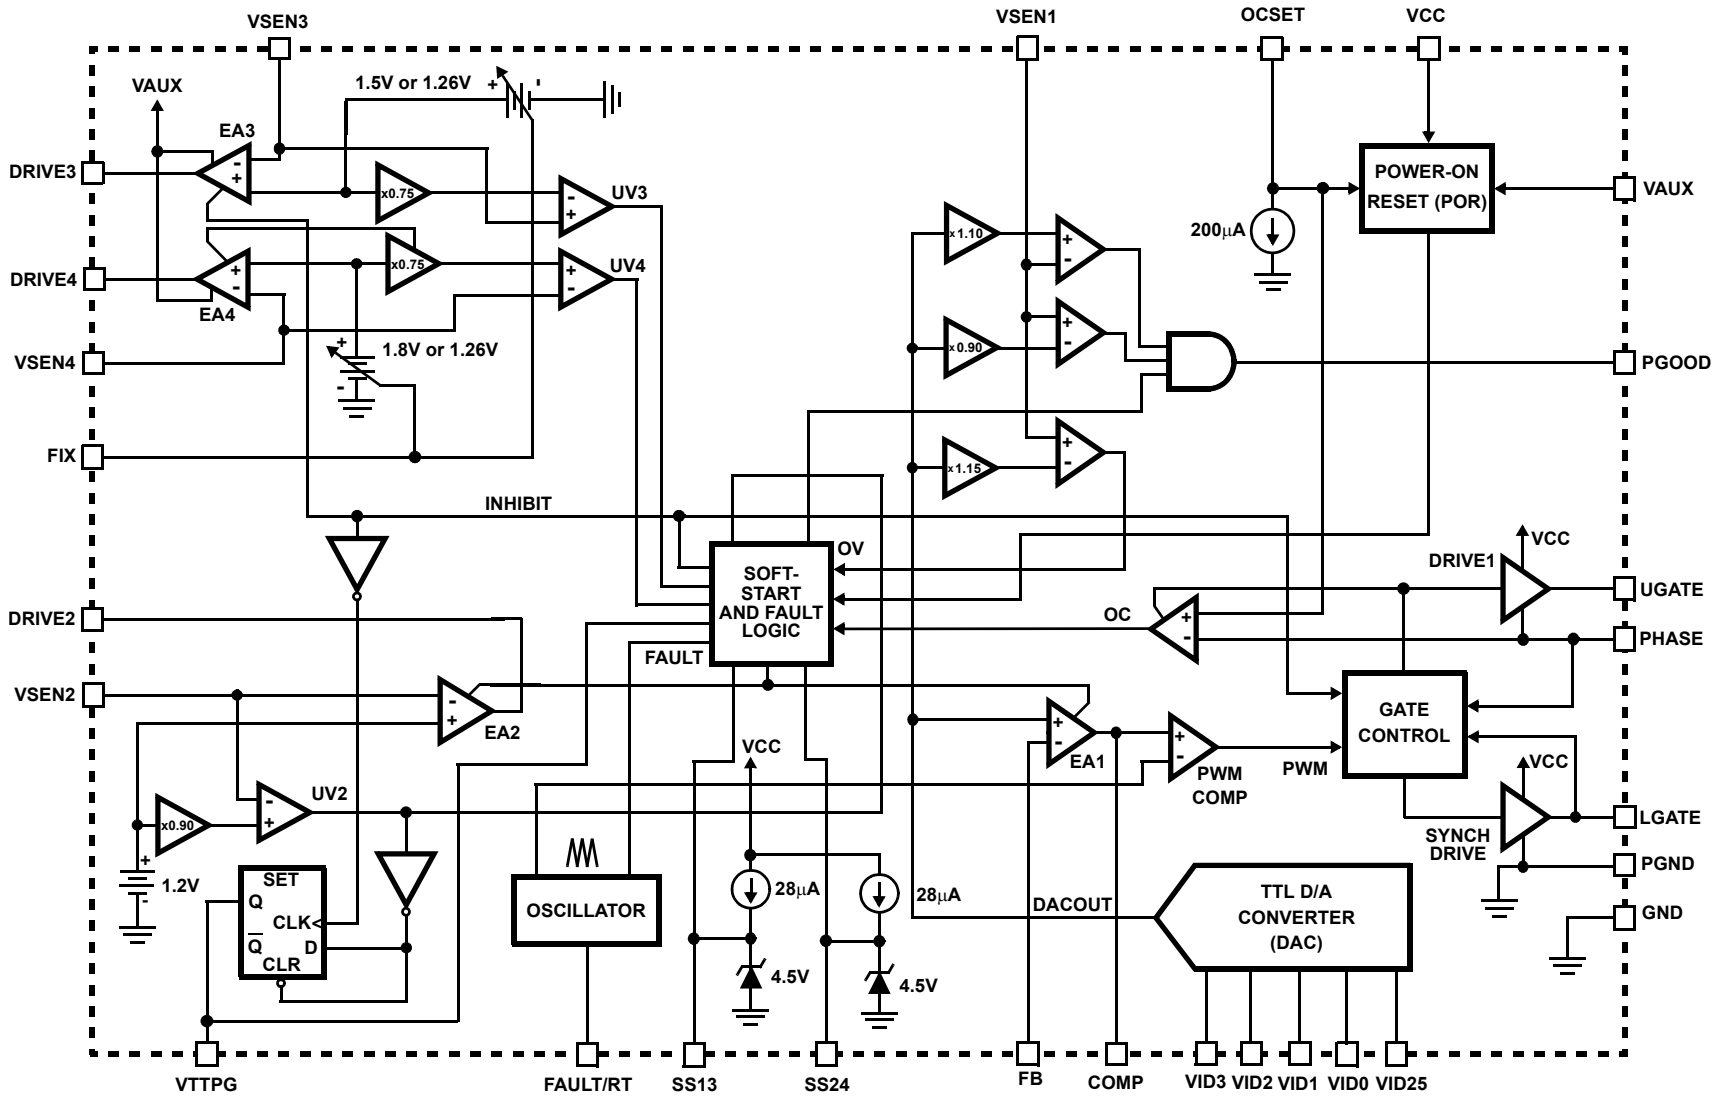

FIGURE 1.
## Electrical Specifications Recommended Operating Conditions, Unless Otherwise Noted. Refer to Figures 1, 2 and 3
**Electrical Specifications** Recommended Operating Conditions, Unless Otherwise Noted. Refer to Figures 1, 2 and 3 **(Continued)**